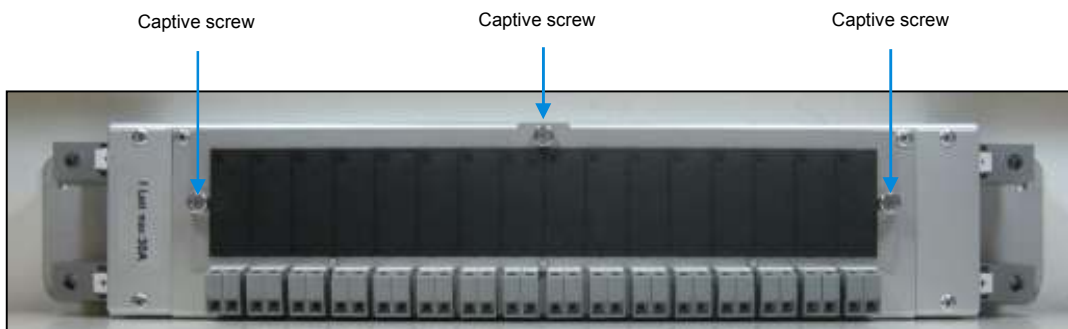

Fig. 4 - Front View
- Remove the circuit breaker retaining cover by loosening the 3 captive screws securing the cover (**Fig. 4**).